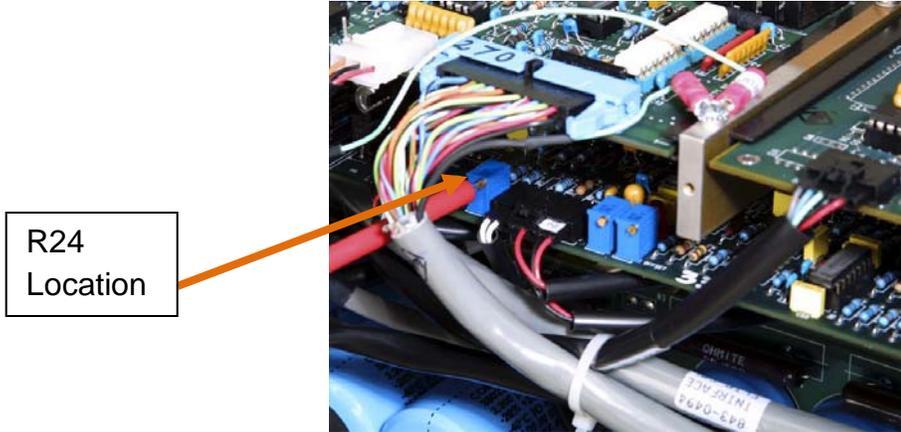

Fig. 2 – Trimpot R24 is used to adjust voltage at TP3
- 3.1.3 Apply input power to CobraTig150 and switch power on with breaker on back of unit. Using the small plastic flathead screwdriver, Adjust **R24** (Current Offset) of the Power Supply Control Board until a reading in the range of (-2 mV to +2mV) is obtained on meter. (Figure 2)